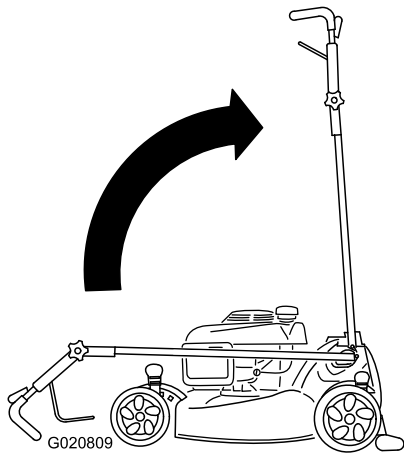

**Figure 48**
1. Step on the foot pedal and hold it down (Figure 48).